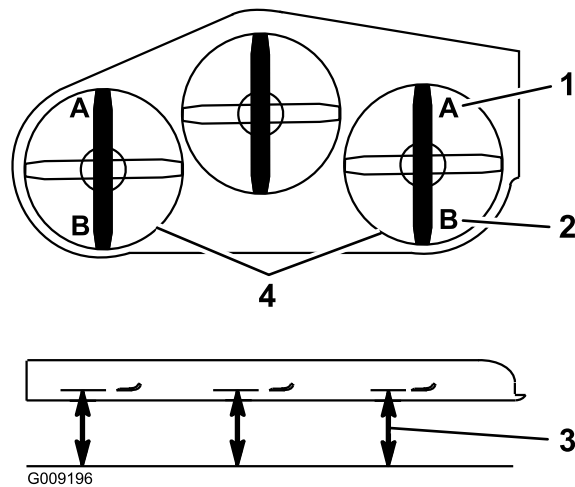

**Figure 95**
5. Push the deck-lift pedal all the way forward and the deck latches at the 14 cm (5-1/2 inches) transport position (Figure 95).